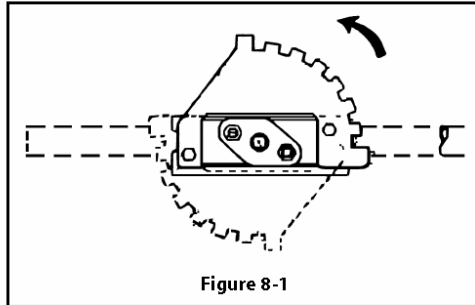

Figure 8-1
If it is necessary to remount the handle 180 degrees from its standard direction (Figure 8-1).
4. If the handle (H1 in Figure 8-1) has been removed from the valve, reinstall it on the shaft drive blade and tighten. Cast handles use a screw (H3) and nut (H5). Fabricated handles use only a set screw (H3). With the handle locking tab in the last (closed) notch of the ratchet plate, rotate the ratchet plate clockwise (when viewed from above the handle) until it is stopped by the locking tab. The disc/handle assembly is now trapped between the disc stop in the body and the ratchet plate.